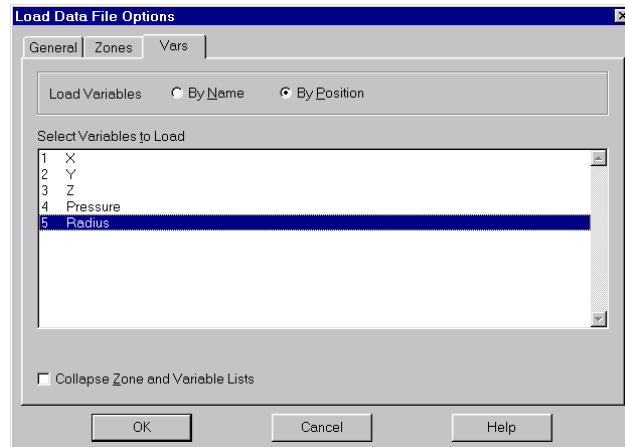

Figure 6-6. The Variables page, Load Variables By Position option, of the Load Data File Options dialog.
6.1.1.6. Loading Variables by Position. The Variables page when loading variables by position is shown in Figure 6-6. Here, you have the option of selecting specific variables to load from the data files, and if appropriate, whether to “collapse” the zone and variable lists.